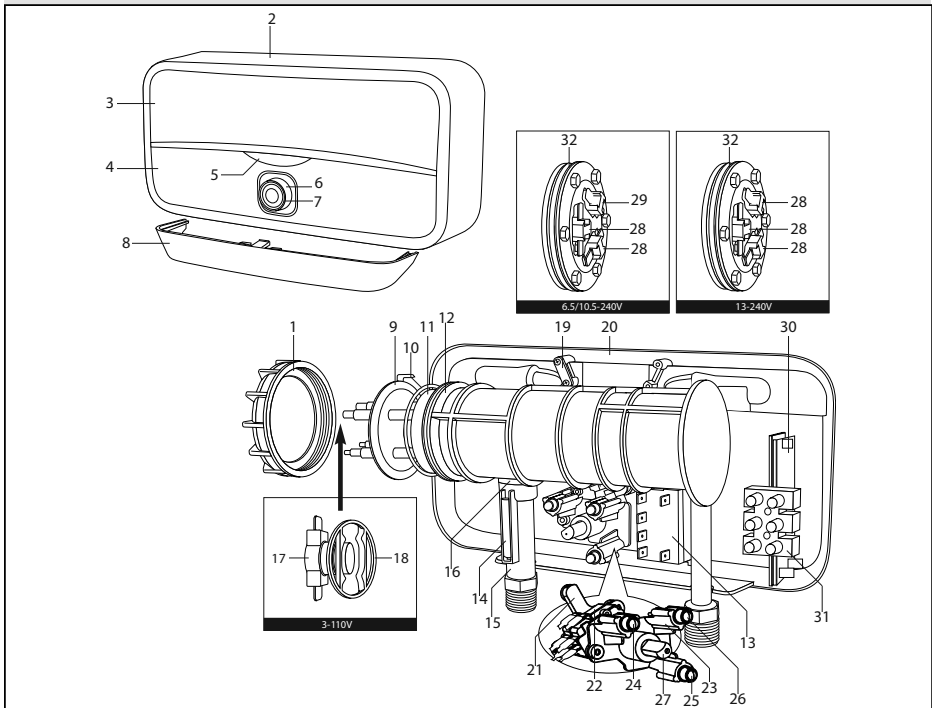

Figure 13 - Replacement Parts
- Remove the front cover following the instructions above. Disconnect the wires from the element. See Figure 13.
- Use an 8mm wrench or socket driver to remove the six (6) nuts and bolts from the canister. See Figure 13. Take care not to lose these bolts and nuts. Replacements are not included with the replacement thermostat.
- Use an 8mm wrench or socket driver to reinstall the six (6) nuts and bolts to the canister.